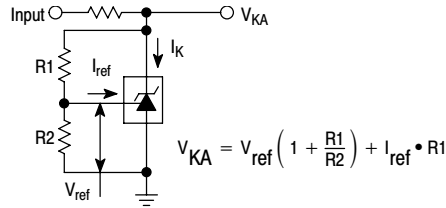

Figure 2. Test Circuit for $V_{KA} > V_{ref}$
3. The dynamic impedance Z_{KA} is defined as: $|Z_{KA}| = \frac{\Delta V_{KA}}{\Delta I_K}$. When the device is programmed with two external resistors, R1 and R2, (refer to Figure 2) the total dynamic impedance of the circuit is defined as: $|Z_{KA}'| \approx |Z_{KA}| \left(1 + \frac{R1}{R2} \right)$
6. The dynamic impedance Z_{KA} is defined as $|Z_{KA}| = \frac{\Delta V_{KA}}{\Delta I_K}$ When the device is programmed with two external resistors, R1 and R2, (refer to Figure 2) the total dynamic impedance of the circuit is defined as: $|Z_{KA}'| \approx |Z_{KA}| \left(1 + \frac{R1}{R2} \right)$